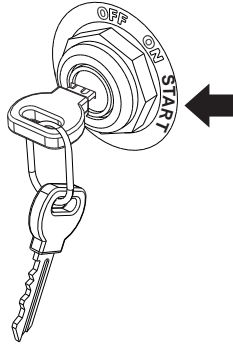

Figure 17. Ignition Key (START)
5. Insert the engine ignition key (Figure 17) into the ignition switch. Turn the ignition key to the **START** position and hold it until the engine starts. Release the key when the engine starts, allowing it to return to the **ON** position.